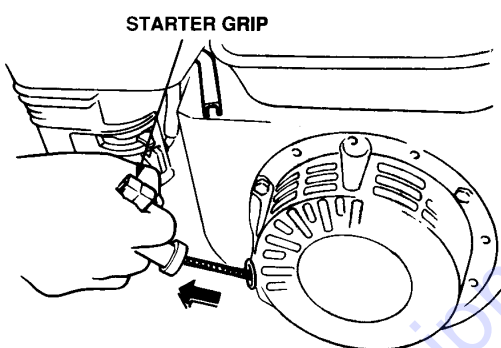

Figure 40. Starter Grip
5. Grasp the starter grip (Figure 40) and slowly pull it out. The resistance becomes the hardest at a certain position, corresponding to the compression point. Pull the starter grip briskly and smoothly for starting.